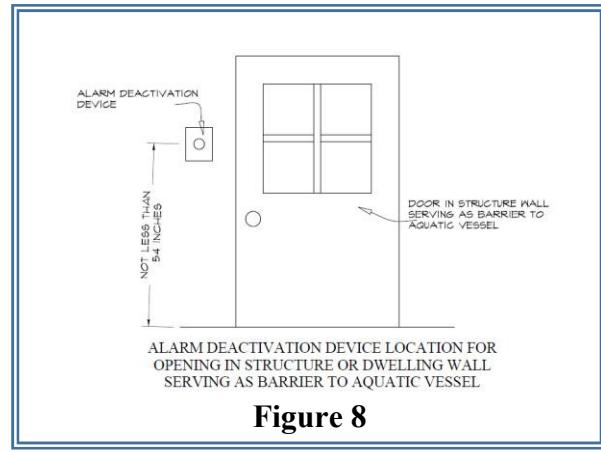

Figure 8
- a. **2.** Doors, and operable windows with sill height of less than 48", with direct access to the pool, shall be equipped with an alarm in accordance with UL 2017. The deactivation switch(es) shall be located at least 54 inches above the threshold of the door See **Figure 8**